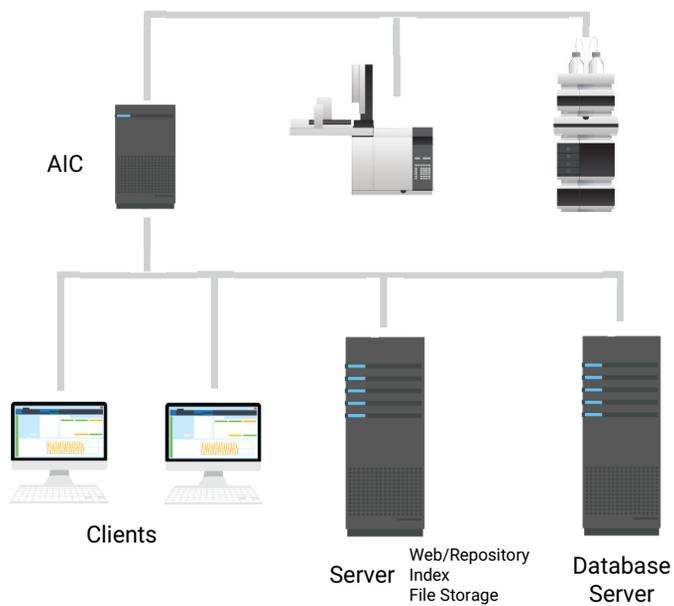

Figure 2 2-Server topology: Clients and AIC link to two dedicated servers.
- 2-server system: (see Figure 2 on page 11),